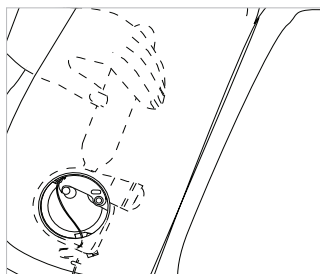
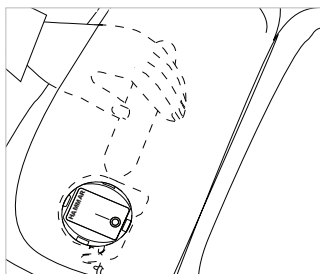

FIGURE 8 MD3153 AND MD3154
FIGURE 8A MD3151
1. Place the PFD on a smooth, flat surface and wipe off any water. Access the inflator by reaching under the cover and pulling it toward you, turning the cell and cover inside-out to fully expose the inflator for re-arming. Hold the CO₂ cylinder through the fabric, using one hand (Fig. 8 for models MD3153 and MD3154, and Fig. 8a for model MD3151).